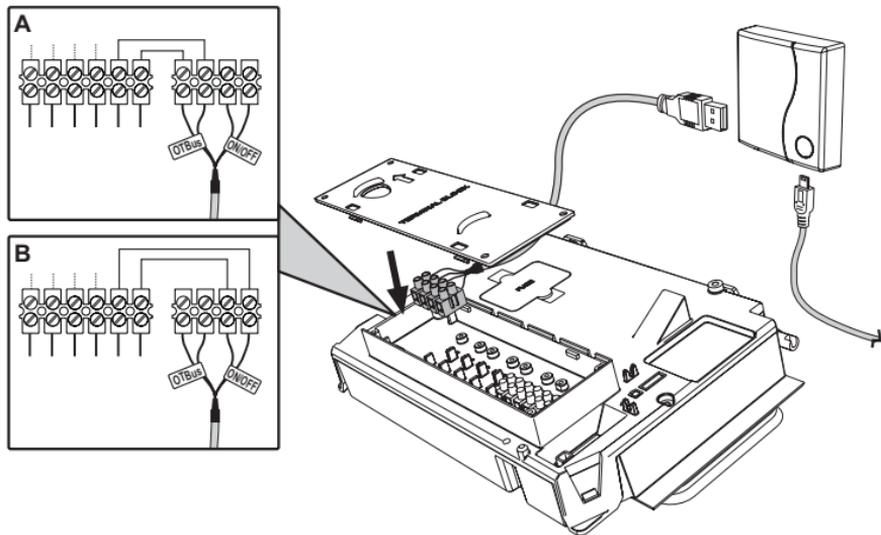

fig. 1
**OpenTherm option (A fig. 1):** connect the two terminals of the receiver with label **OT-Bus** to the boiler that supports the OpenTherm protocol. In this case, more information is available on boiler status (see “5.7.1 Basic operations” on page 49).
**On-Off option (B fig. 1):** connect the two terminals of the receiver with label **ON/OFF** to boilers that do not have the OpenTherm communication protocol.